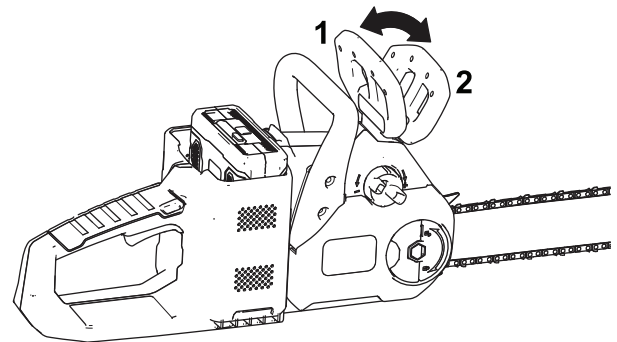

Figure 8
5. Ensure that the chain brake is in the OPERATING position (Figure 8).
Whenever you are not using the saw or are transporting the saw to or from the work area, move the chain brake to the STOP position (Figure 8).